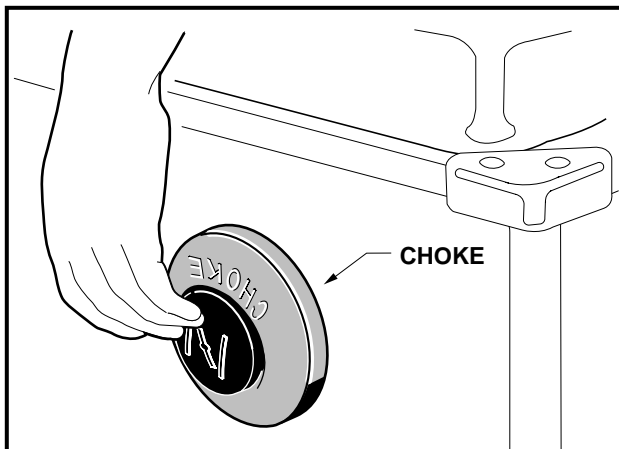

Figure 3-11 Choke Button
- **Pedal-Start Vehicle:** Push in the choke cover to activate it. Hold it during start up and release the choke cover after the engine starts and runs smoothly (**Figure 3-11, Page 3-7**).